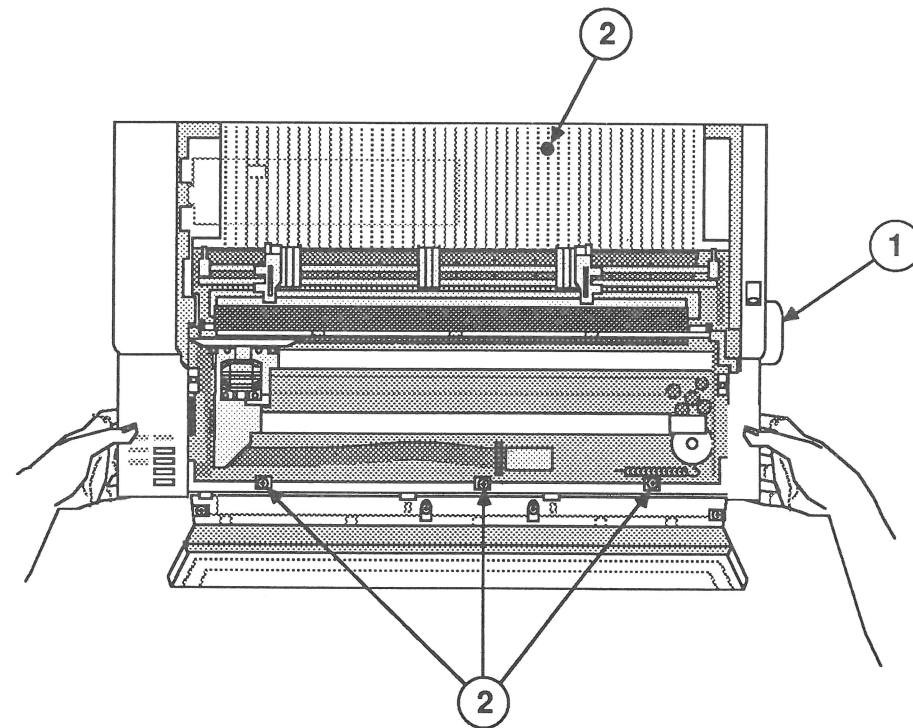

FIGURE 1
3. Remove the platen knob (Figure 1, #1) by pulling it to the right, away from the printer.
4. Loosen the four captive Phillips screws (Figure 1, #2) holding the main cover to the printer base.